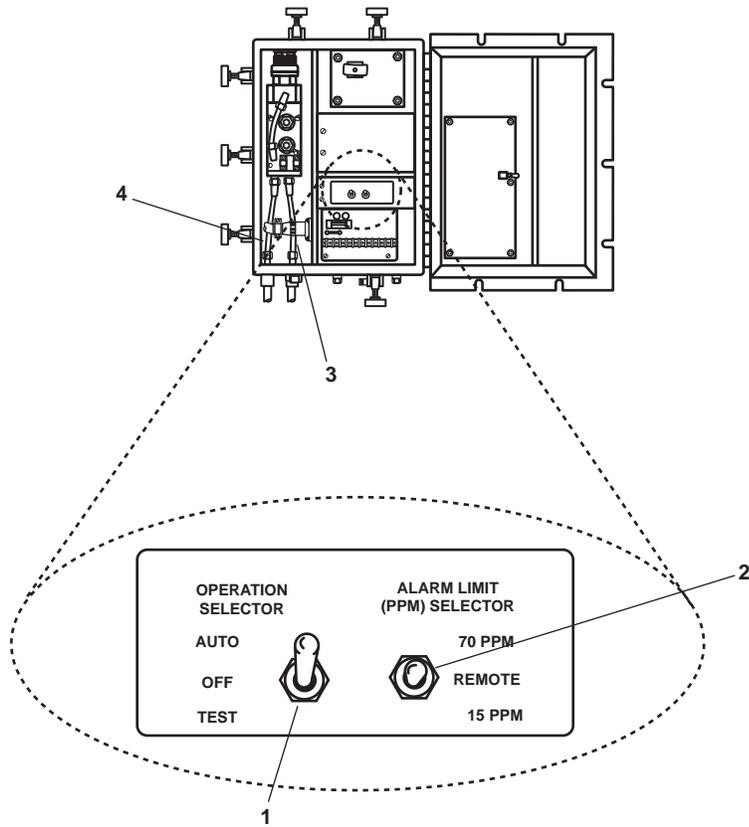

Figure 4. Sampling/Sensor Assembly Interior
7. Position the OCM ALARM LIMIT (PPM) SELECTOR switch A1S2 (figure 4, item 2) to either the 15 PPM position for OWS operation within 12 nautical miles of land or 70 PPM for OWS operation outside 12 nautical miles of land.
9. Position the OCM OPERATION SELECTOR switch A1S1 (figure 4, item 1) to Test.
10. Verify that the OCM has fluid flowing through the OCM sample inlet tubing (figure 4, item 3) and is discharging fluid through the OCM sample discharge tubing (figure 4, item 4). If the OCM does not have fluid flow within 2 minutes, set the OWS control panel switch (figure 1, item 1) to OFF and notify the maintenance supervisor. If the OCM does have fluid flow within 2 minutes, continue with the procedure.
11. Perform the required maintenance, troubleshooting, or system verification checks and return the OCM OPERATION SELECTOR switch A1S1 (figure 4, item 1) to the AUTO mode as soon as the necessary procedure has been completed.
2. Set OPERATION SELECTOR switch A1S1 (figure 4, item 1) to OFF.
3. Perform OCM backflush by CLOSING OCM 1 (figure 3, item 12) and OPENING OCM 2 (figure 3, item 13). Continue OCM backflush until all liquid from the OCM discharge tube (figure 4, item 4) is clear.